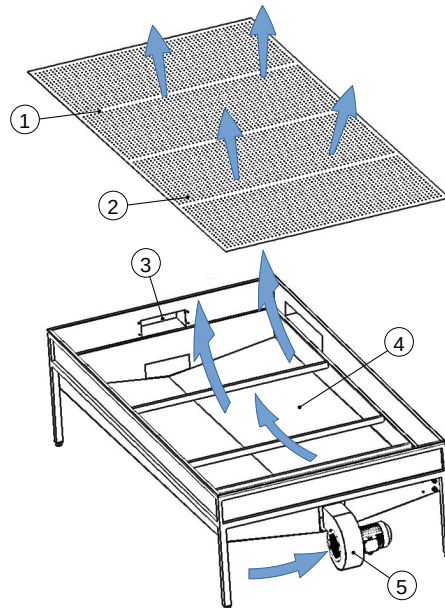

Figure 7: Principle of operation
Caramel coated popcorn is being constantly tossed by an operator on the perforated trays (1) and (2), see Fig.7. Blower (5) forces ambient air to flow from the room in housing of the table, and then through perforated trays, thus helping to cool down the product. Crumbs of caramel and popcorn is being screened through the perforation and collected in the low part of the housing, crumb tray (4). After popcorn is cooled down, operator opens the popcorn chutes (3), by removing popcorn chute bafflers, and then discharge ready-to-eat product.